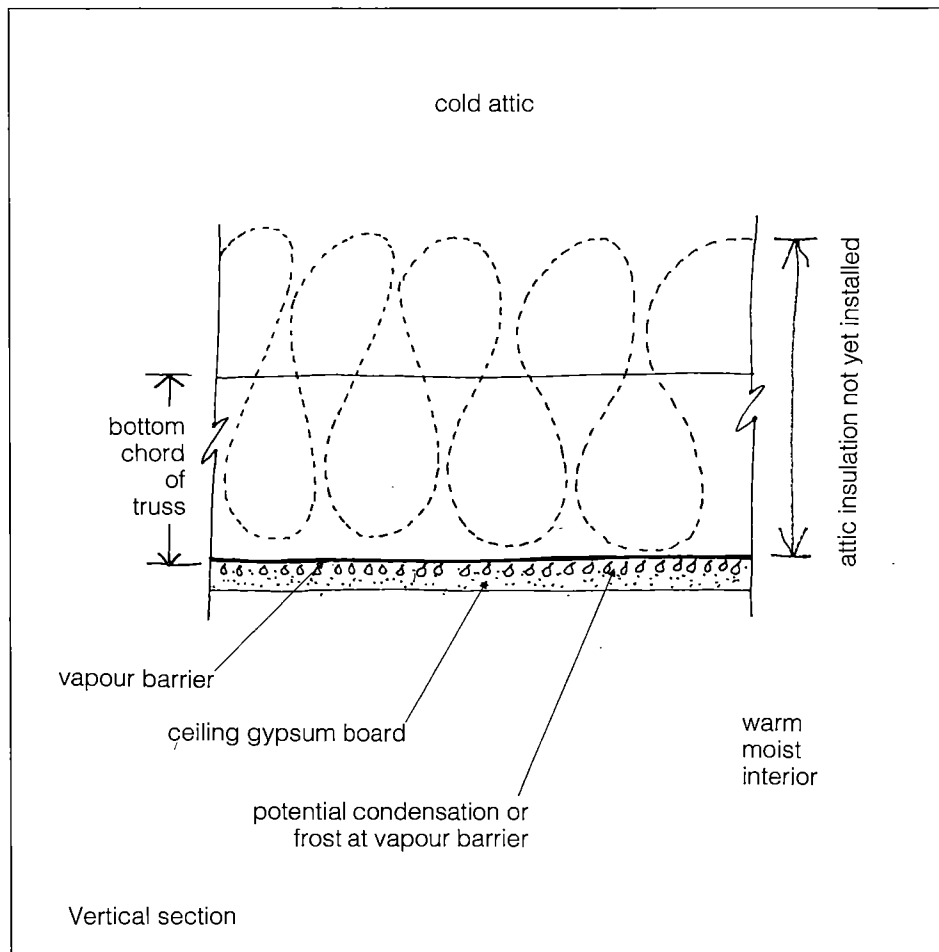

Fig. 19. Ceiling sag caused by improper scheduling
*When ceiling vapour barrier and drywall are applied and the building is heated, moisture may condense and freeze behind the board. When the ceiling is later insulated, the frost melts and the moisture is absorbed by the board (fig. 19).*